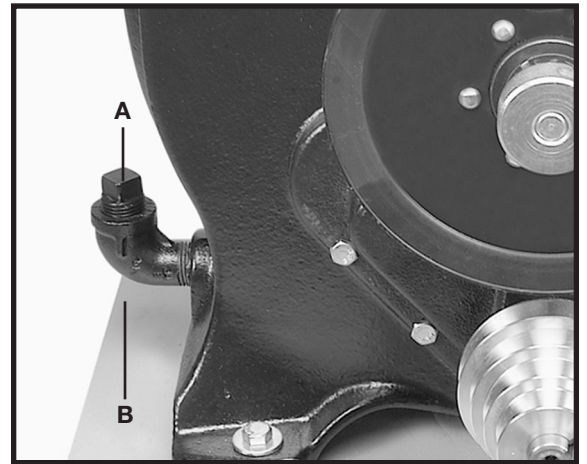

Fig. 35
This machine is equipped with a 1/2" street elbow (B) Fig. 35 and a pipe plug (A). Remove the plug (A) to check the oil level and, when necessary, to add oil.